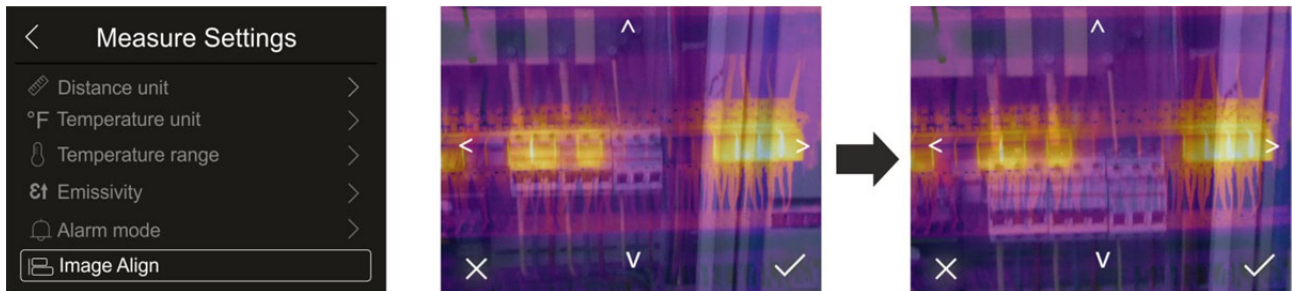

Fig. 29: Alignment of the image on the display
1. Touch the item “Image Align”. Fig. 29 – middle is shown on the display. In this figure, the two images with a low infrared value are overlapping.
2. Touch the 4 arrows on the display in order to move the IR image by overlapping it onto the visible one (see Fig. 29 – right side).